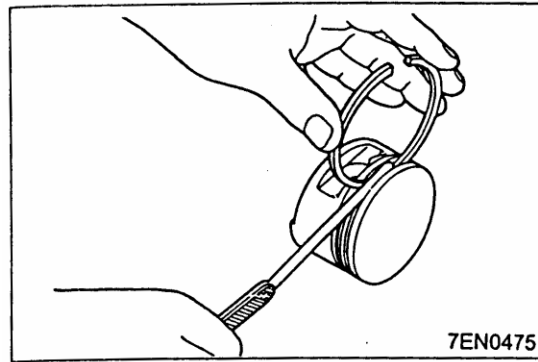

Fig.4-90
- (1) Check the piston ring side clearance. If the clearance exceeds the specified limit, replace the ring or piston, or both, see Fig.4-90.